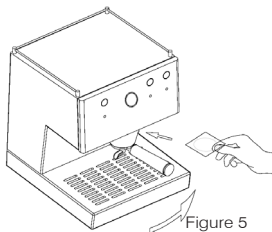

Figure 5
2. Place a tablet on the filter holder and turn it gently to the right as far as it will go. Do not force it, closure is smooth. (See figure 5).